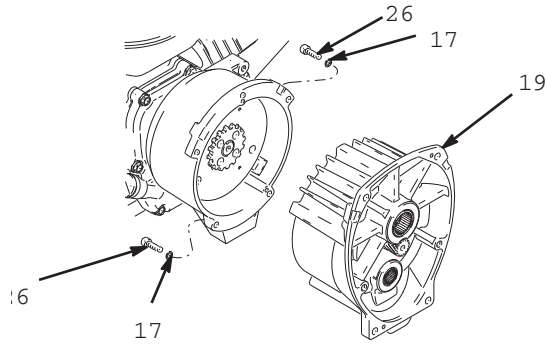

FIG. 13
9. Apply Locktite®¹ to screws. Install four screws (16) and lock washers (17) (FIG. 13). Alternately torque screws to 125 in-lb (14 N.m) until rotor is secure. Use threaded holes to hold rotor.
10. Install pinion assembly (19) with five screws (10) and lock washers (9) (FIG. 13).